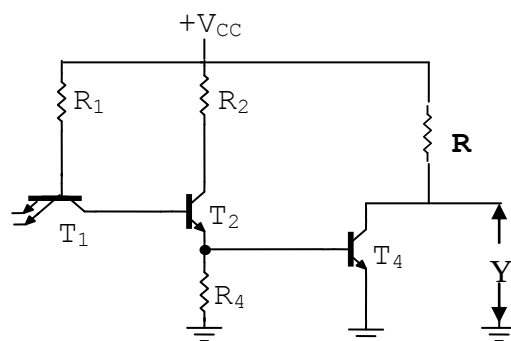

Fig.3.8 (b) : TTL NAND gate with pull up Resistor
In this circuit the upper transistor called *Active Pull Up Transistor* T_3 has been removed from the totem-pole pair of transistors in the output-stage. The output of such a circuit remains low, but switching from low to high state is not possible. For this purpose a high resistance (R) is connected between the collector of T_4 and V_{cc} as shown in Fig.3.8 (b).